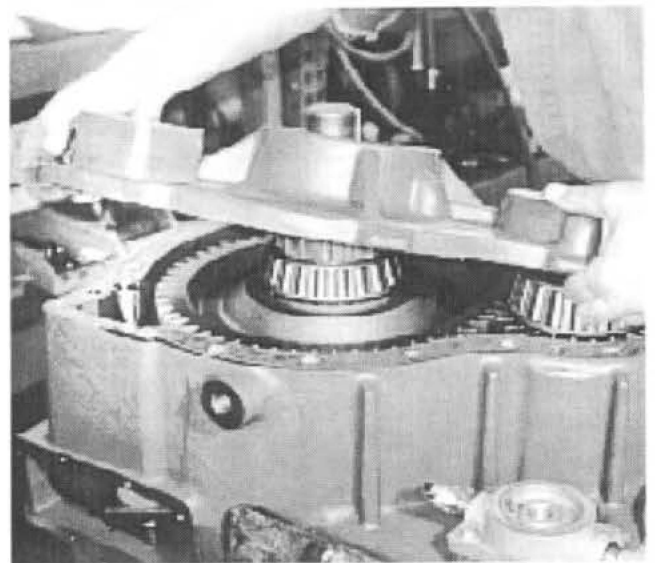

Fig. 27
27. Remove the rear carrier. Remove the oil seal from the rear carrier and discard. Remove the bearing cups from the carrier only if necessary. See Fig. 27